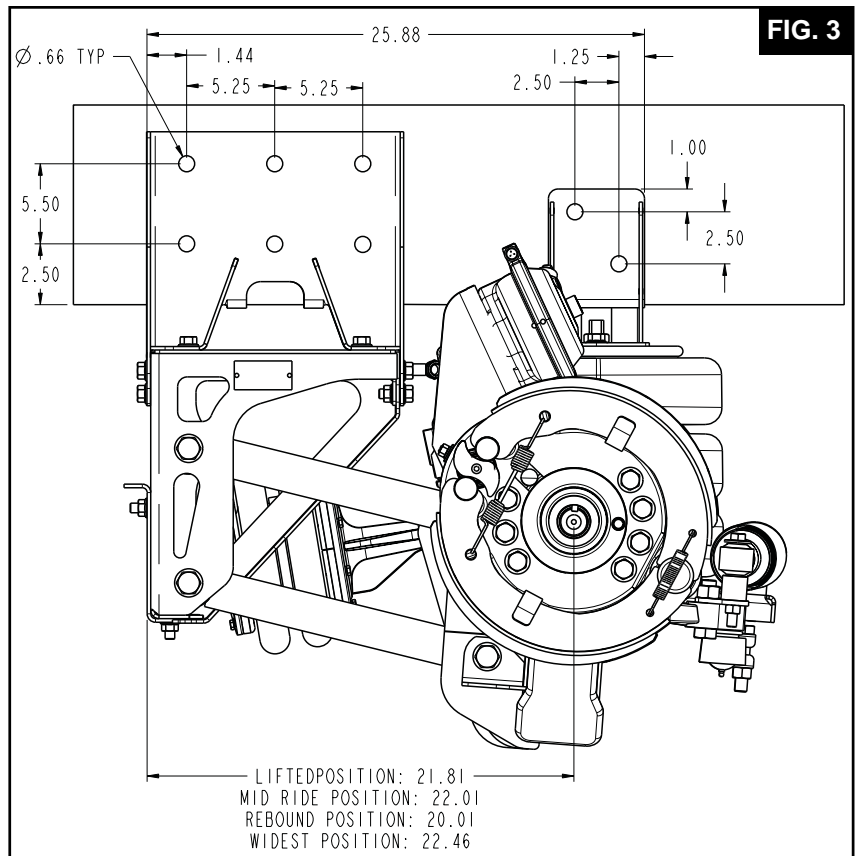

FIG. 3
9.3 Once the frame brackets are clamped tightly to the outside and bottom surfaces of the truck frame, check all clearance issues and then center punch all mount holes. (See **Fig. 3** for recommended mount hole location.)